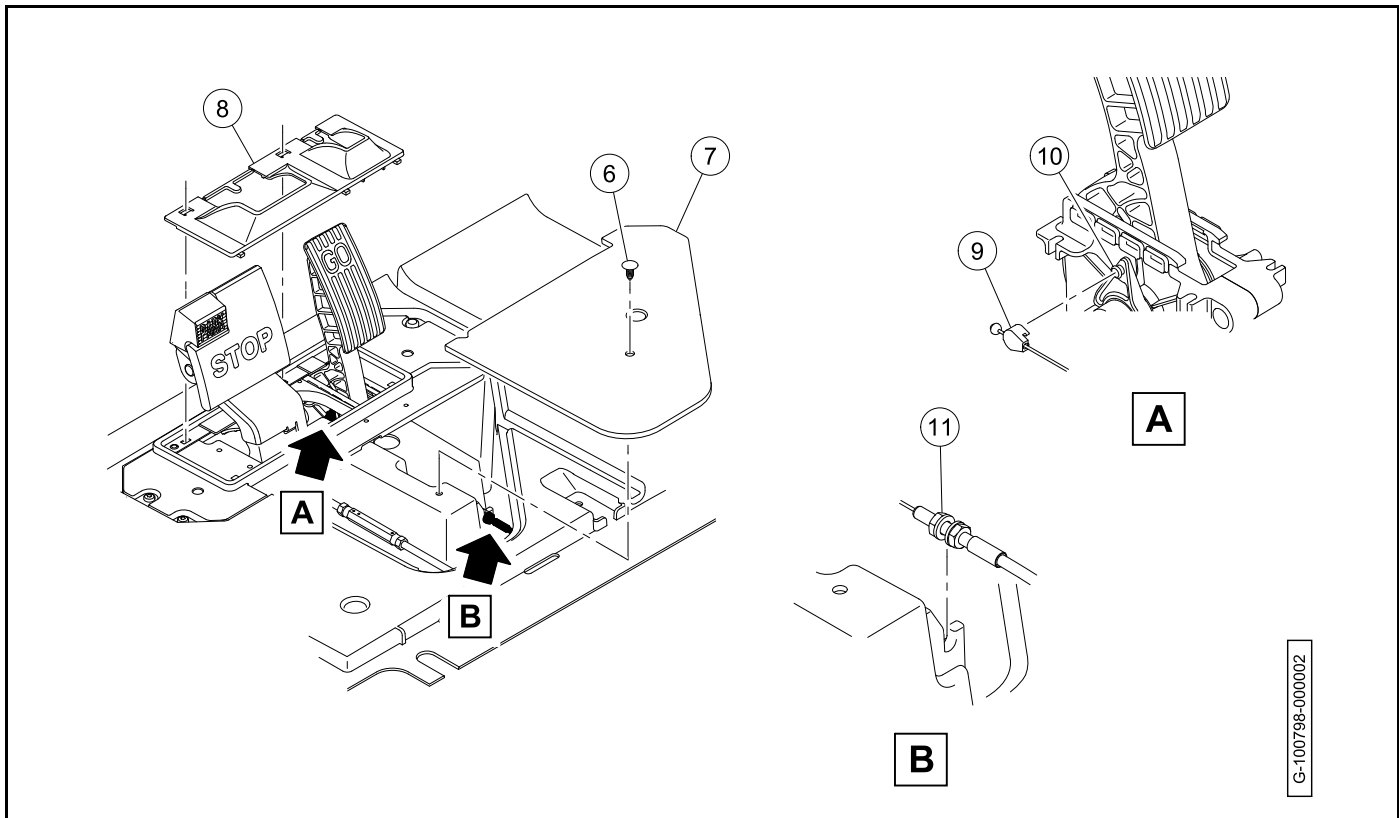

Figure 21-9 Accelerator Cable At Pedal Group
- 2.2. Connect the accelerator cable clip (9) to the accelerator pedal (10) (**Figure 21-9, Page 21-8**).